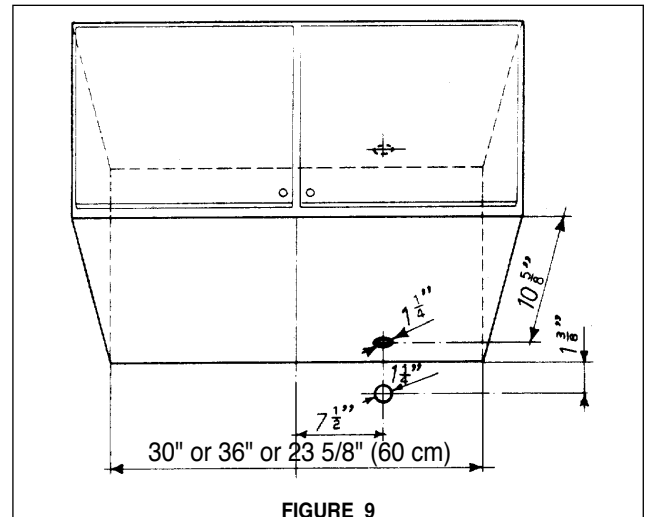

FIGURE 9
5. Determine the proper location for the Power Supply Cable. Both possible locations are given in **FIGURE 9**. Use a 1 1/4" Drill Bit to make this hole. Run the Power Supply Cable. Use caulking to seal around the hole. **DO NOT** turn on the power until installation is complete.